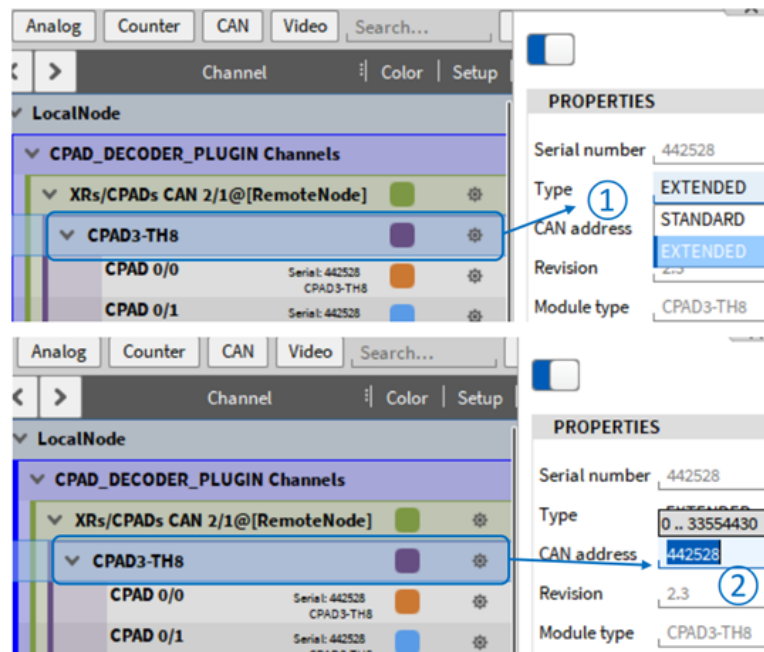

Fig. 4.35: CPAD specific properties
The CPAD's specific properties can be found in the CPAD's individual channel setup (see Fig. 4.35):
It is possible to edit the CAN address/ID of the CAN Message sent by the CPAD in decimal form (see ① in Fig. 4.35). ID Type Extended (by default) or Standard can be selected (see ② in Fig. 4.35).